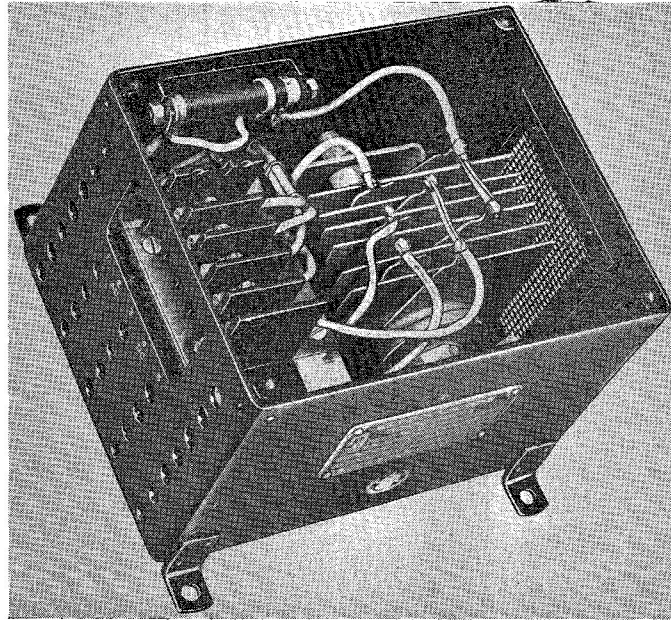

Fig. 2. View with cover removed
4. Occupying the remaining space is a full-wave metal rectifier (fig. 2), supported by a pair of mounting brackets which are attached by ch/hd. screws to the bottom of the case. The ends of the rectifier spindle pass through holes in these brackets and are secured by hex/hd. nuts. Lying between the brackets
5. The resistor (fig. 2) is in the form of a wire-wound bobbin, secured by hex/hd. nuts between the arms of the bracket which is riveted to the side of the case. The bobbin is provided with an adjustable strap connection.